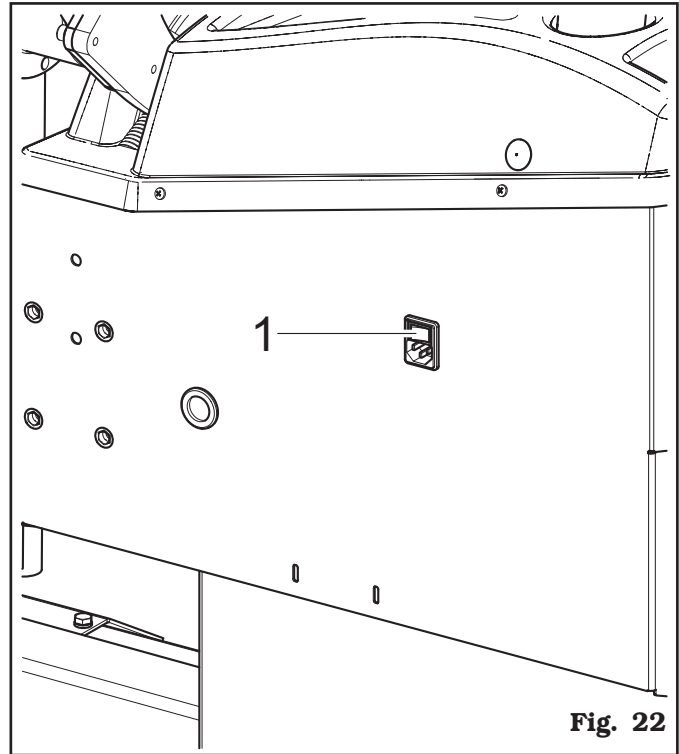

Fig. 22
2. Switch the machine off by using the master switch (**Fig. 22 ref. 1**). Couple tyre's inner rod (**Fig. 6 ref. 1**) with flange's inner rod (**Fig. 6 ref. 2**) (see **Fig. 6**).
Once the plug/socket connection has been made, turn on the machine using the master switch (**Fig. 22 ref. 1**).
Press the "ON" switch (**Fig. 22 ref. 1**), located in the rear part of the equipment.
In order to turn off the machine, simply press the "OFF" switch (**Fig. 22 ref. 1**).